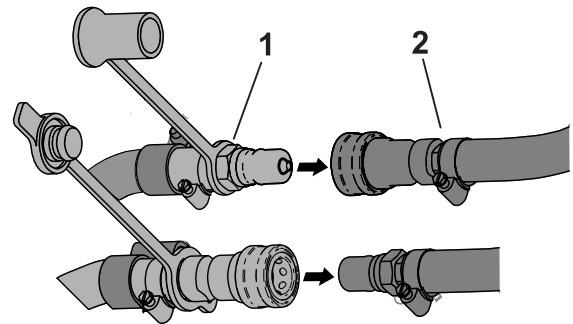

Figure 34
2. Disconnect the heater hoses (Figure 34).
3. Seal the heater hoses using the dust caps (Figure 34).